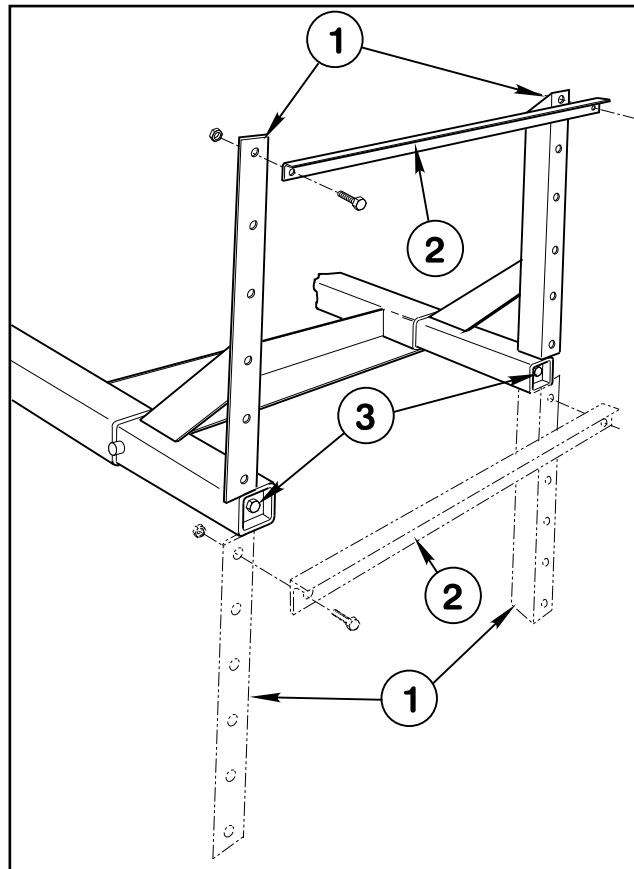

FIG. 5
**NOTE:** Note the position of the angle member of the Boom Mount Assemblies, in relation to the tube member. They must be positioned as shown, for the mounting of the Cross Support Angle. See FIG. 5.
- 1. Apply a heavy coating of grease to the tubes of the two Boom Mount Assemblies and insert them into the Vehicle Frame as shown in FIG. 5.